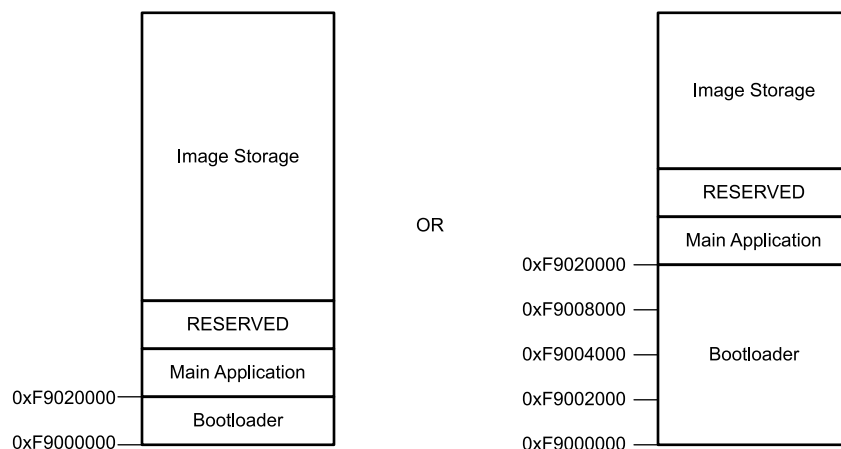

Figure 7-2. Boot Flash Memory Layout
All applications require both the controller and DMD components for reliable operation. The system uses an external parallel flash memory device loaded with the DLPC900 configuration and support firmware. The external boot flash must contain a minimum of two sectors, where the first sector starts at address 0xF9000000 which is the power-up reset start address. The first 128 kilobytes is reserved for the bootloader image and must be in its own sector and can be made up of several smaller contiguous sectors that add up to 128 kilobytes as shown in Figure 7-2. The remaining sectors contains the rest of the firmware. The default wait-states is set for a flash device of 120ns access time. For a faster flash access time, refer to the Section 7.2.1.2.1.4.2 on how to program new wait-state values.
- PM_CSZ_1 – dedicated CS for boot flash device (≤ 16 megabytes). Refer to the Figure 7-2 for the memory layout of the boot flash.